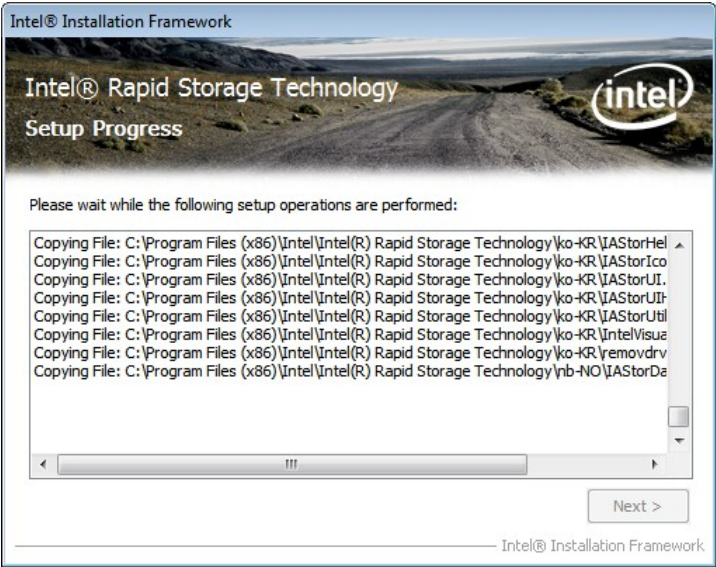

Figure 6-25: SATA RAID Driver Setup Operations
Step 11: **Setup Operations** are performed as shown in **Figure 6-25**.